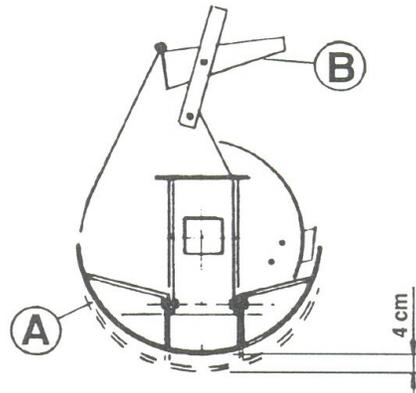

FIG. 8
- 5.1 The cutting height can be adjusted by moving skid A (FIG. 8) according to the thickness of the material to be removed and to the depth of removal.